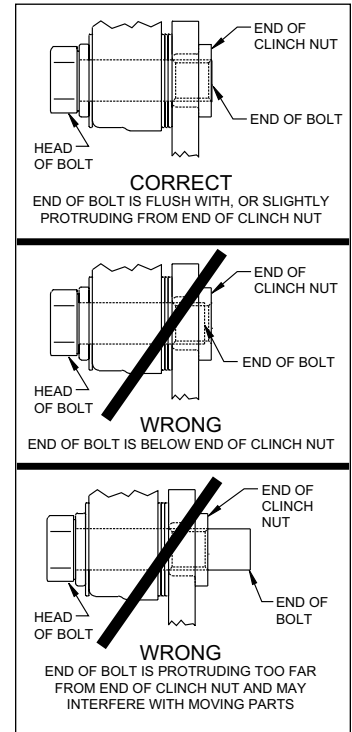

Figure 5. Clinch Nut Engagement Diagram
**CAUTION:** All mounting bolts must fully engage clinch nuts. Be sure to check that all bolts are either flush or protruding through flanged side of clinch nut after shimming, Figure 5.
clinch nut, as shown in Figure 5. If necessary place spare shims between washer (19) and caliper mounting ear to achieve the proper clinch nut engagement. Once the caliper alignment and clinch nut engagement are correct, remove the caliper bolts and caliper.